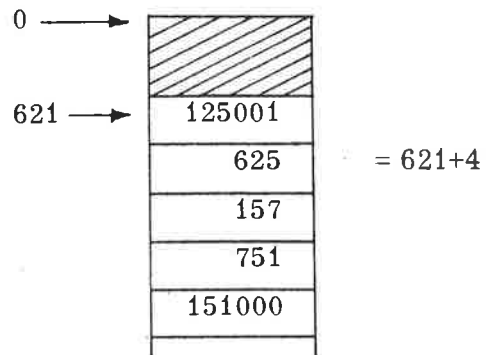

Figure 1.4
When the loader reads control number 17 (BEG), the current location (in this case, 621) is taken as the program's first address (the so-called program-base). This program base is added to those P-groups which are preceded by the control number 2 (LR). The result is shown in Figure 1.4